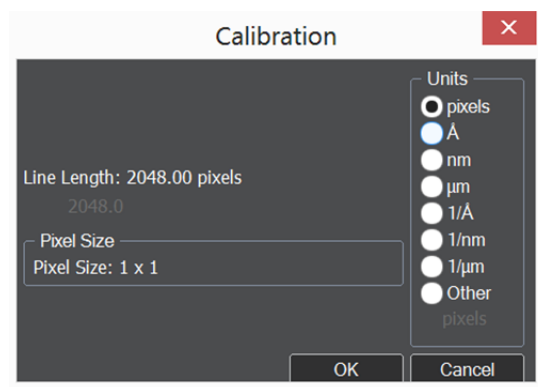

Figure 21: Calibration dialog.
- 5 Enter the correct distance for the selected feature (for example 10 line pairs of cross grating sample where the distance = $10 \times 0.463 \mu\text{m}$) in the Calibration window and select the units. Select the distance marked in the previous figure to perform the magnification calibration, in the Calibration dialog, as shown in Figure 21.